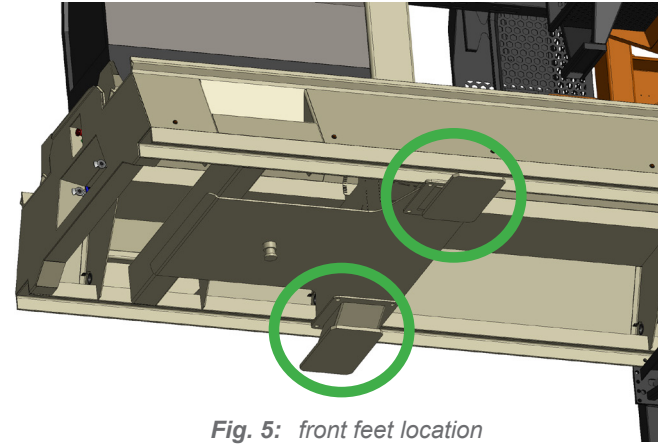

Fig. 5: front feet location
9. Unbolt axle and jack stand assemblies. (see fig. 5)